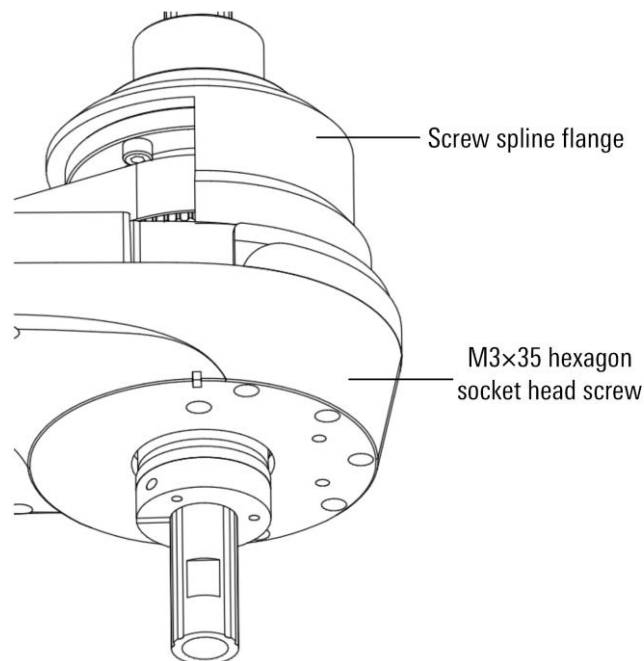
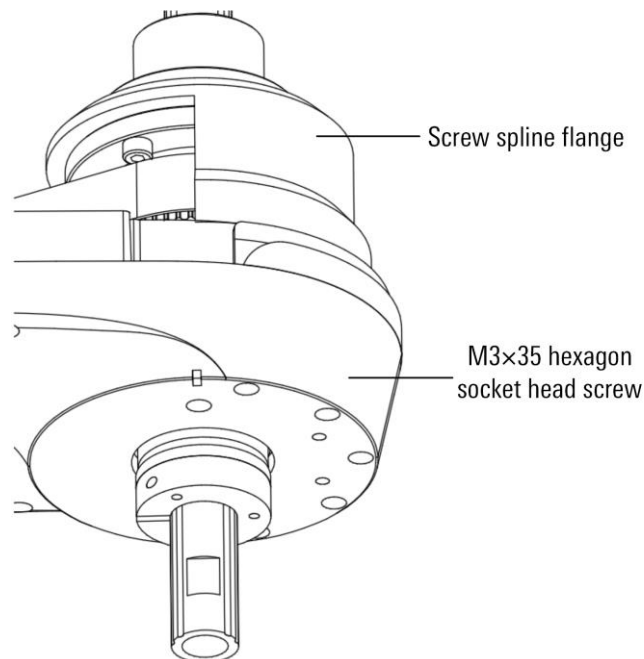

Figure 8-9 Schematic diagram of disassembling screw spline flange
Figure 8-15 Schematic diagram of disassembling screw spline flange
- Step6. Use an Allen wrench to remove the five M3×35 hexagon socket head screws for mounting the screw spline flange from the lower end of the forearm, and move the screw spline flange upward, as shown in Figure 8-9.
Step5. Use an Allen wrench to remove the five M3×35 hexagon socket head screws for installing the screw spline flange from the lower end of the forearm, move the screw spline flange upward, and remove the fixed screw spline method from the lower end of the forearm. The five M3 screws used for the flange are shown in Figure 8-9, and the screw spline flange is removed upward, as shown in Figure 8-15.